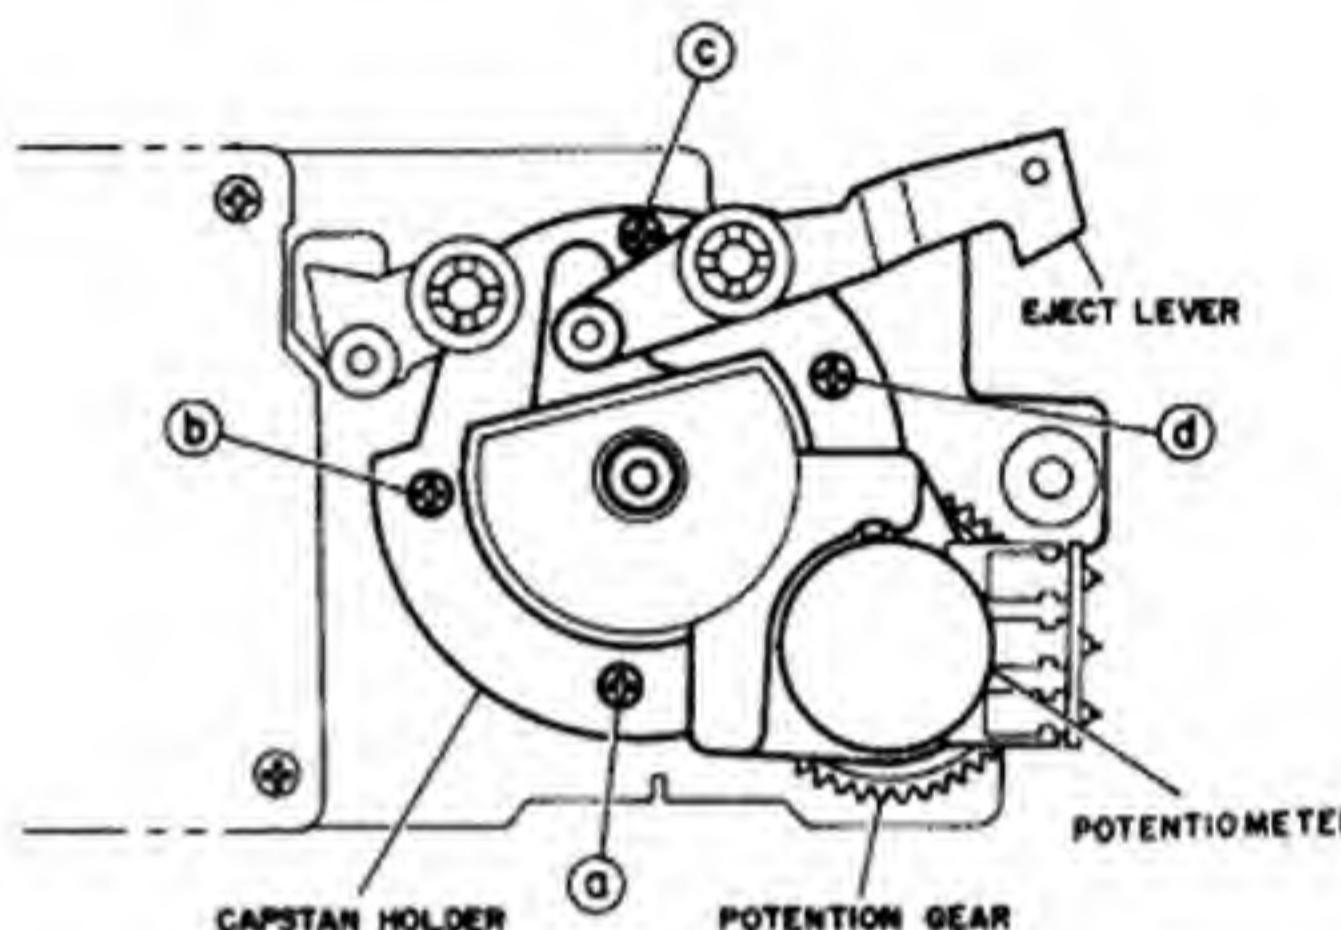

Fig. 4-12
- 3) Remove capstan holder securing screws Ⓐ, Ⓑ, Ⓒ and Ⓓ. Remove the capstan holder. (See Fig. 4-12.)